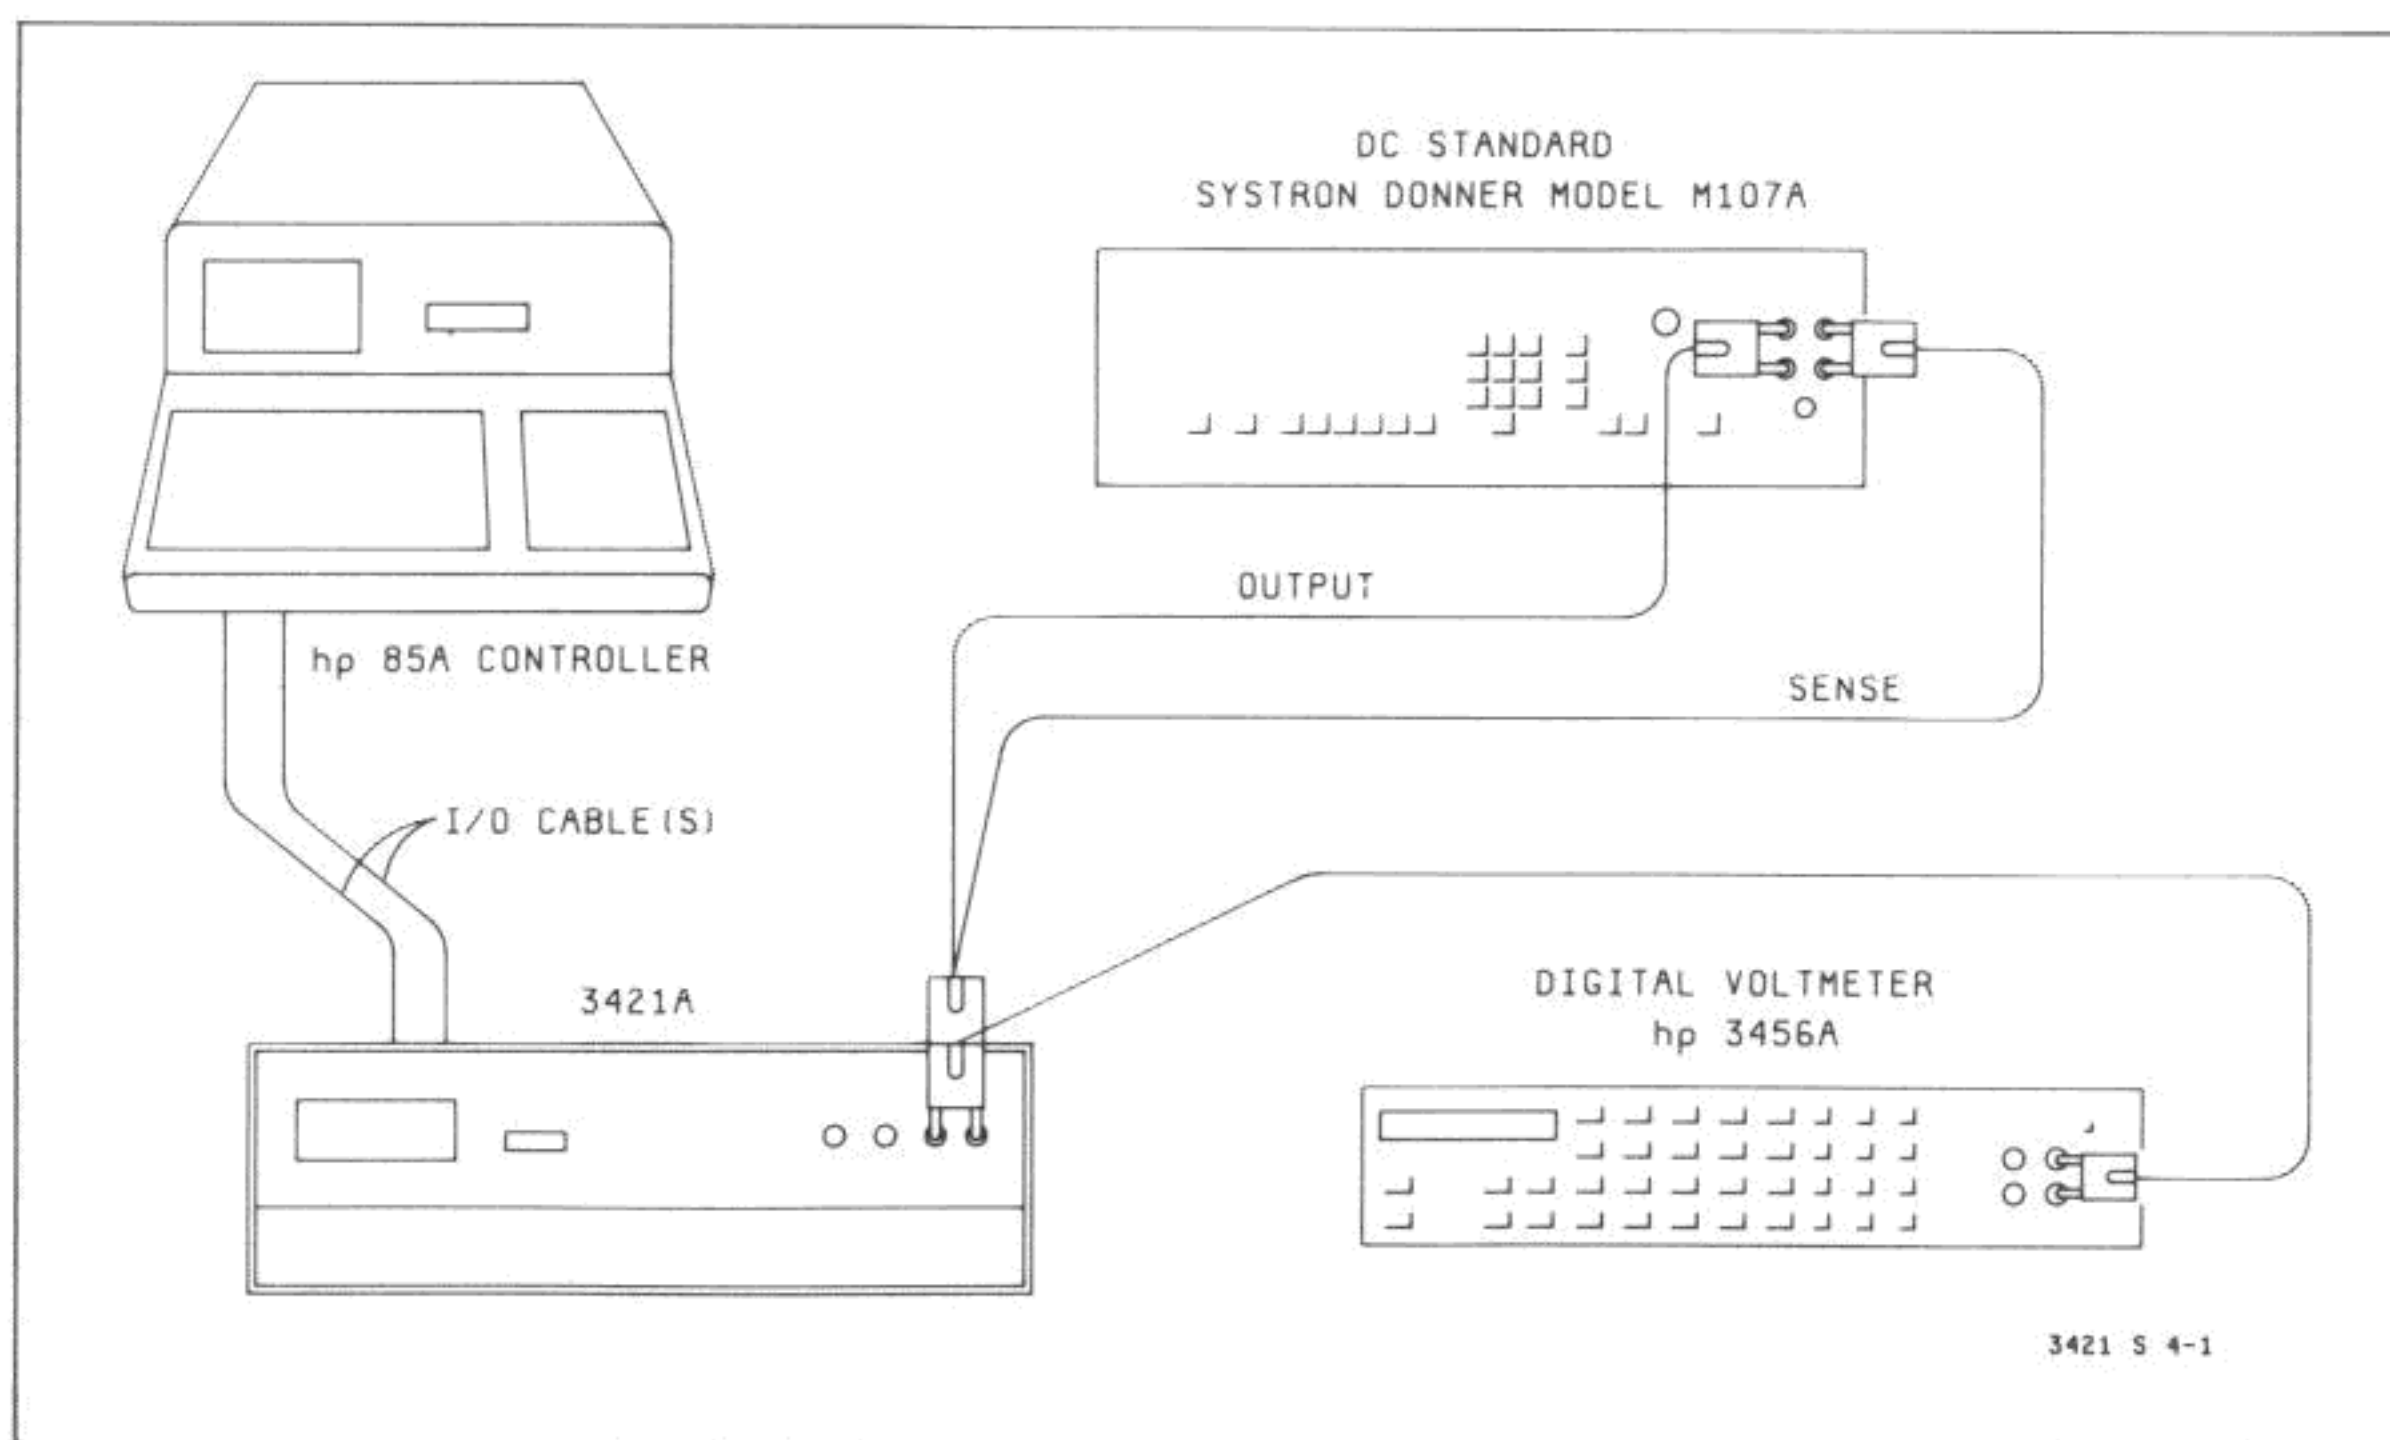

Figure 1-4-1. DC Volts Accuracy Test
k. Connect the HP 3421A to the digital voltmeter and the dc standard as shown in Figure 1-4-1.